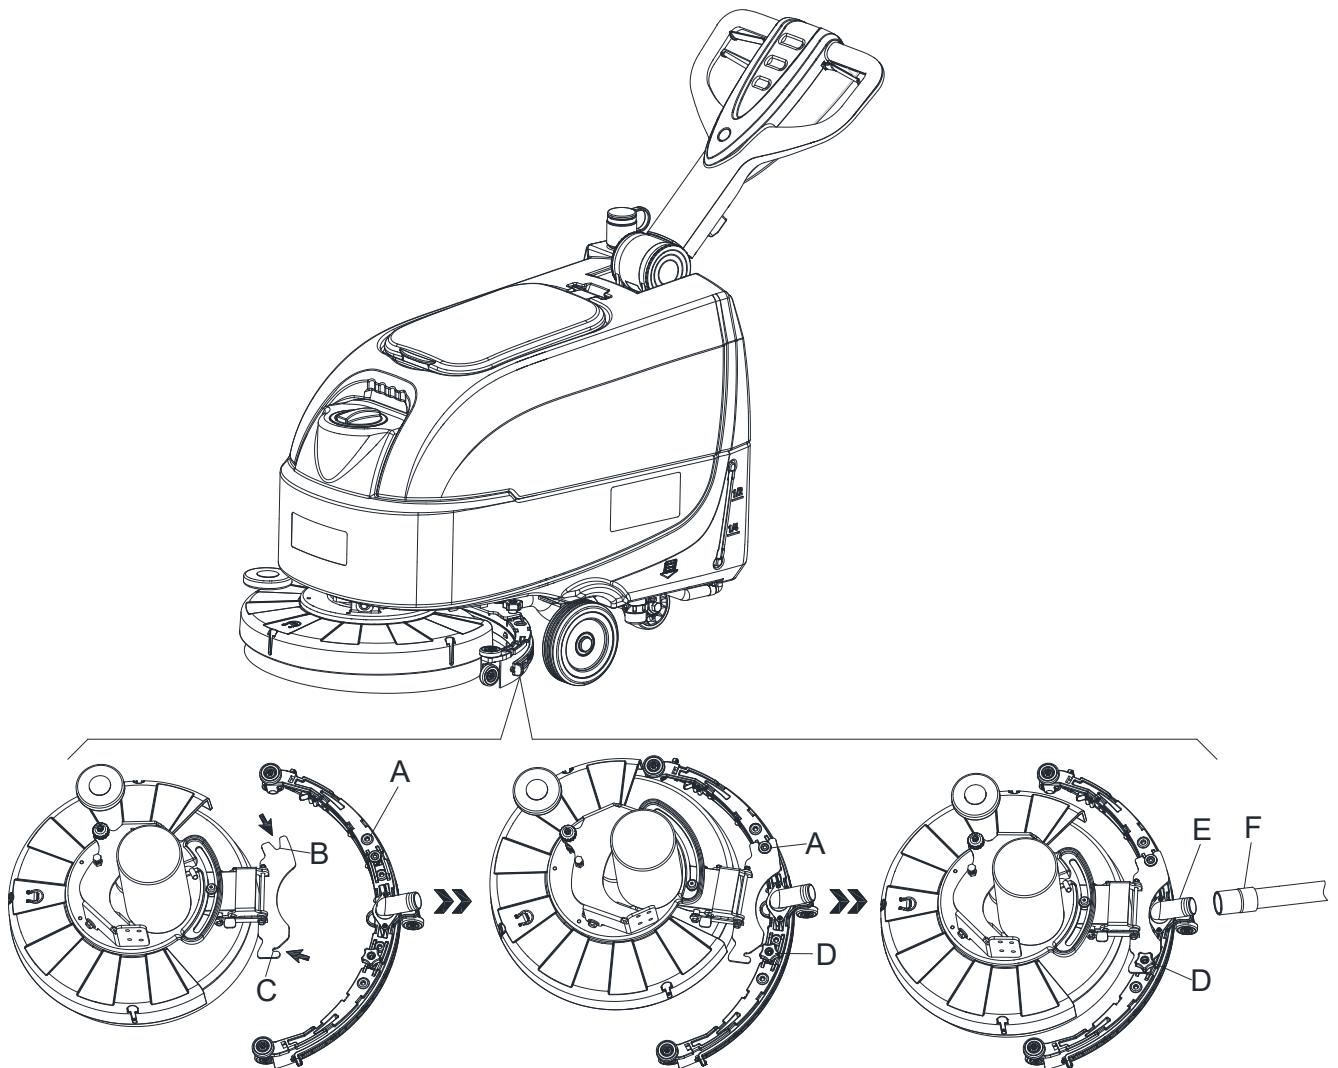

Figure 6
5. Fix stud A to the open B, then fix another screw D to the open C, fasten squeegee knob and connect recovery water drain hose F to the connector E (Figure 6).